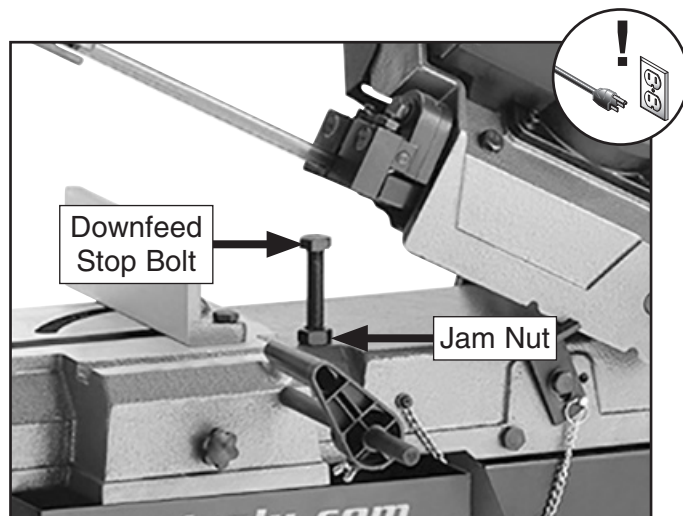

Figure 55. Location of downfeed stop bolt.
3. Raise headstock until blade is just below vise table surface and adjust downfeed stop bolt and nut to secure headstock position (see **Figure 55**). Adjustment is complete.
4. Adjust downfeed stop bolt until blade is just below vise table, but not contacting it (see **Figure 55**). Tighten jam nut to secure.